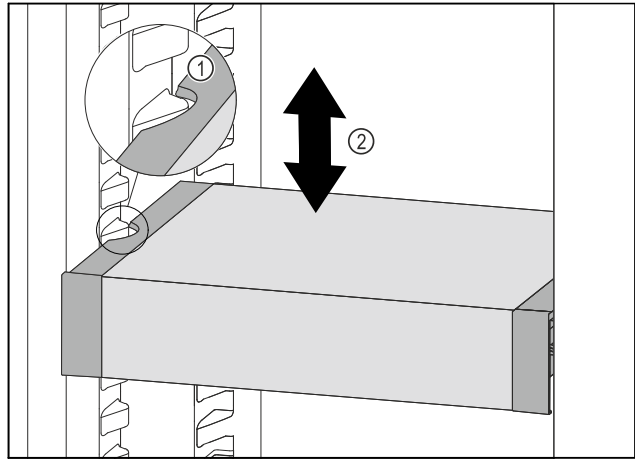

Fig. 133
- ▶ Pull VarioSafe forwards until the recesses in the side of the VarioSafe are at the level of the support rib in the refrigerator compartment. Fig. 133 (1)
- ▶ Move VarioSafe up or down in the refrigerator compartment until the desired height is reached. Fig. 133 (2)